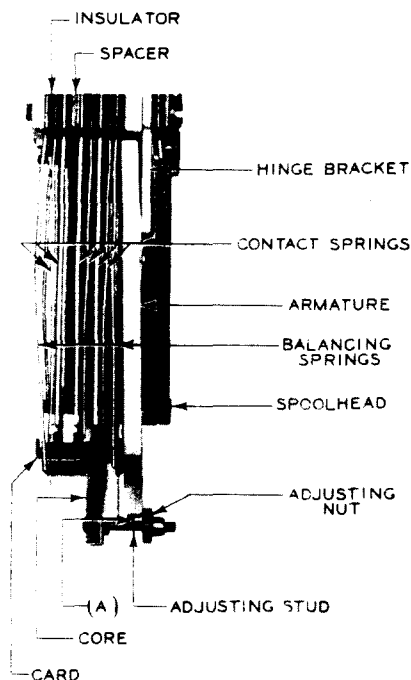

Fig. 4—UB-Type Relay—Top View
2.07 Adjusting Stud Clearance: Fig. 4(A)—On a relay having an adjusting stud, there shall be a clearance between the armature and the adjusting stud in all positions of the armature travel.